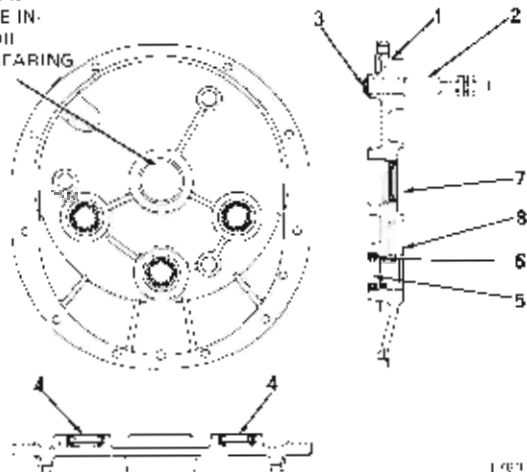

Figure 5-18. Gear Case Cover Assembly
10. Before installing the gear case cover, perform the following operations (see Figure 5-18):
If you find that the amount of axial float is within the stated tolerance, bend the cotter pin to its permanent position. Install O-ring (6) and bearing cap (8); as shown in Figure 5-18.